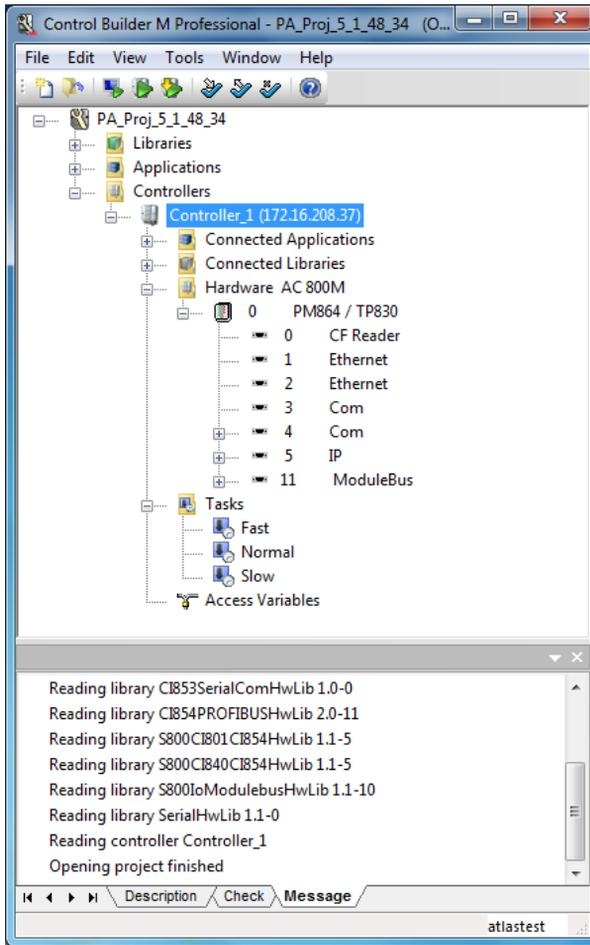

Figure 18. Control Builder M
3. Double click to open the 0 item for the controller as shown in Figure 18.